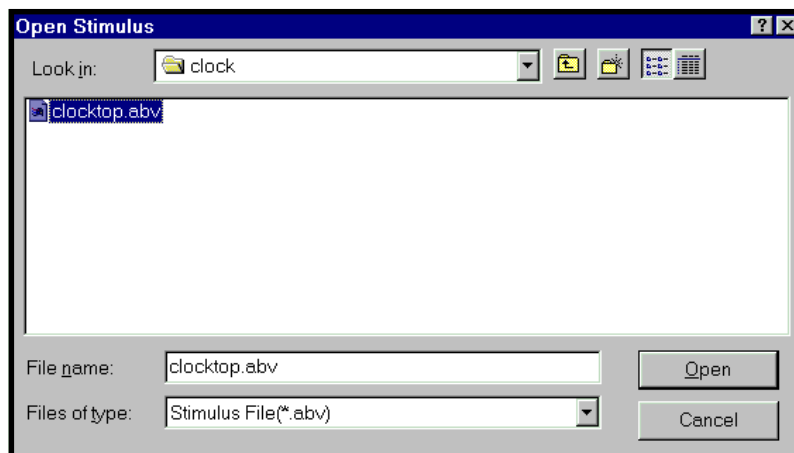

Figure 2-6. Open Stimulus Dialog Box
- Select **File** ⇒ **Open Stimulus**. The Open Stimulus dialog box appears prompting you to select a stimulus file (*.wdl, *.abv, or *.abl) (Figure 2-6).